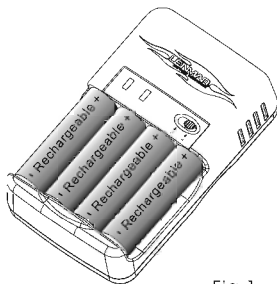

Fig.1
- If you want to charge 4 AA batteries, insert the 4 batteries and slide the battery selector switch to the "4" position, as shown in figure 1.